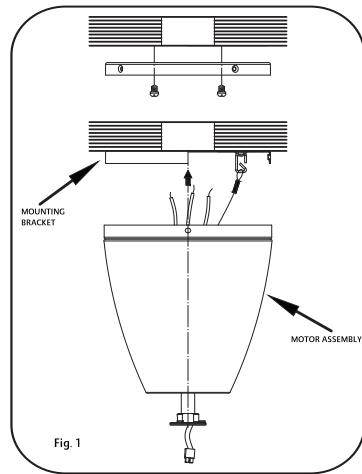

Fig. 1
Step 1. Attach the mounting bracket to the outlet box with two screws and washers provided. Make sure the bracket is tight and secured. (Fig. 1)
Step 2. Lift fan into position by hanging the motor assembly onto the hook from the ceiling mounting bracket allowing it to hang freely. (Fig. 1)